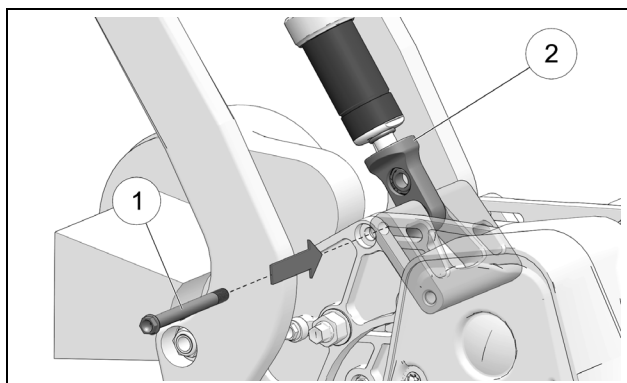

Figure 28
- Re-insert assembly bolt (1) to attach Soft Strut (2) to Bike mount. Do not tighten the bolt completely at this point. See Figure 28.